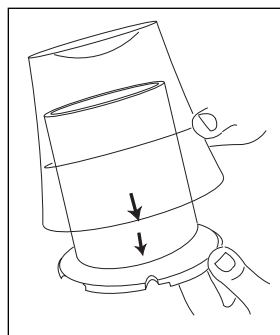

Figure 2
2. Place the Grinder Cover/Container over the Grinder Blade Assembly and align the two arrows, as seen in Figure 2. Press both parts together, then turn the Grinder Cover/Container clockwise until both parts are locked together.